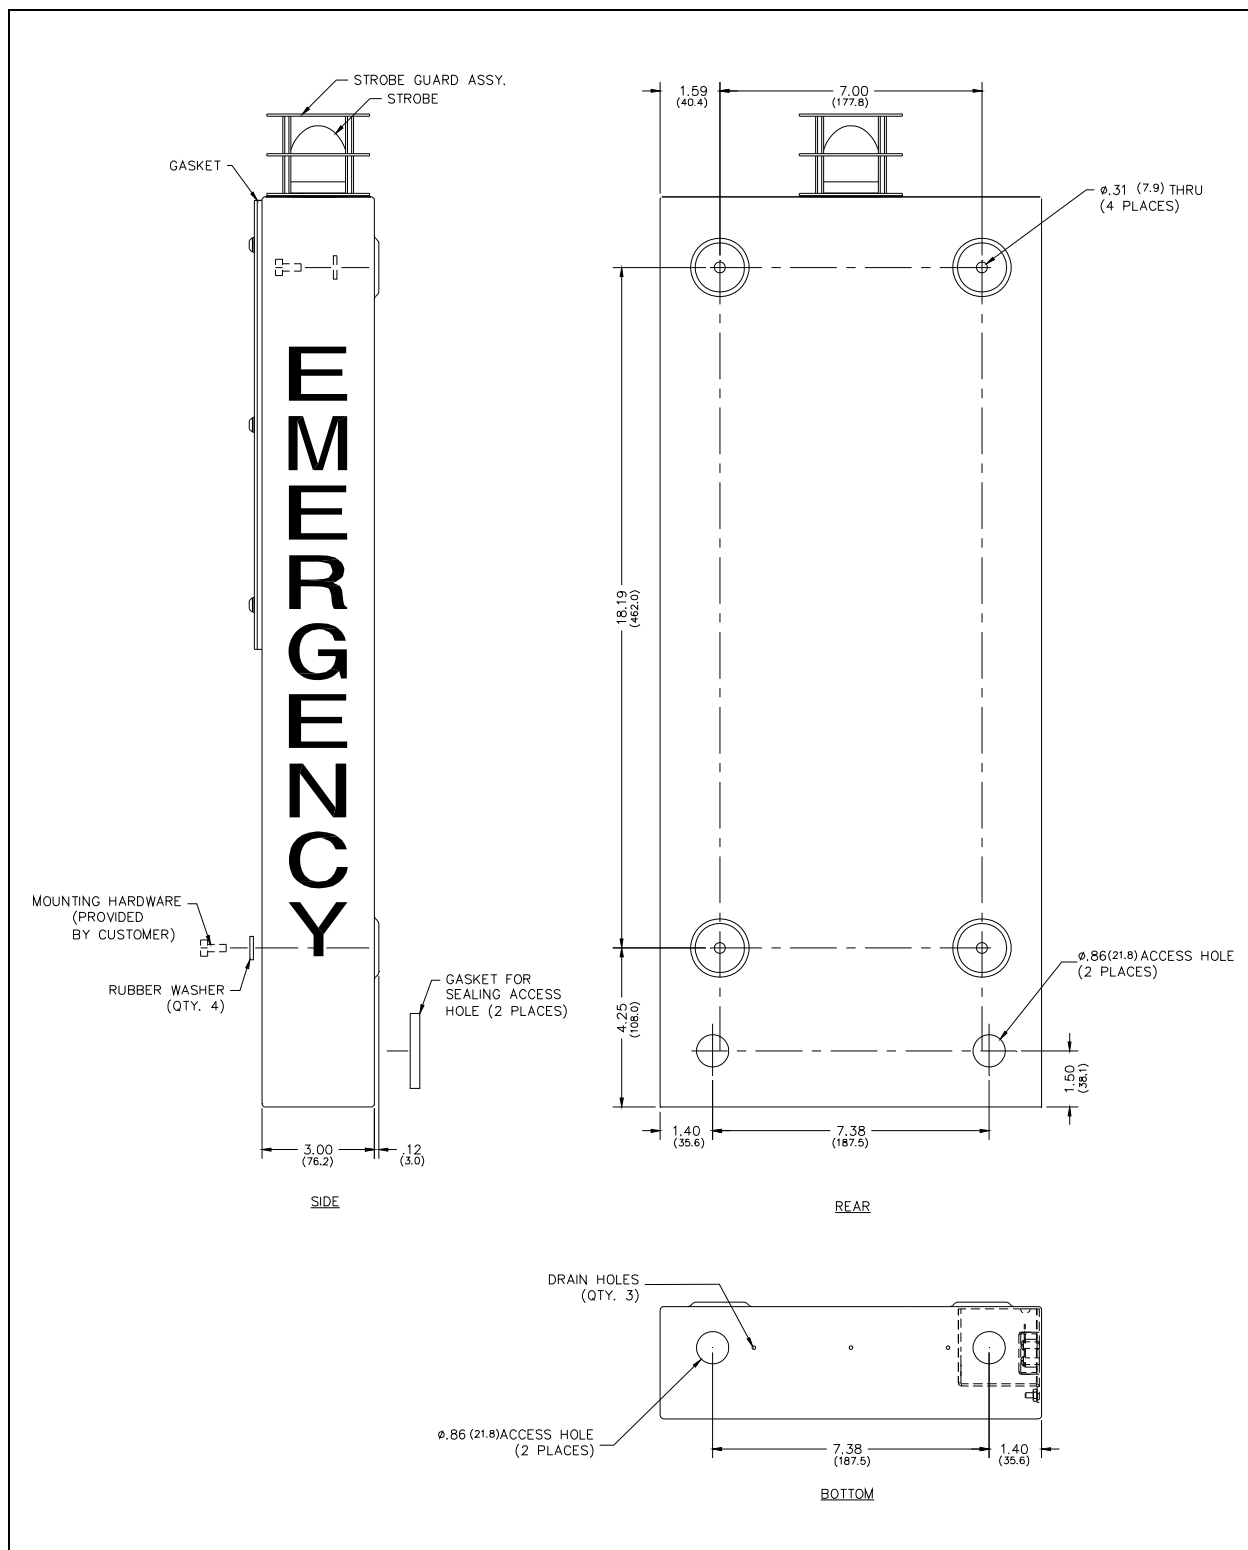

Figure 1. Model 239MW-001/-002 Mounting Details
2. Mount the enclosure on a flat wall surface using the four 5/16-inch (0.312) diameter holes as shown in Figure 1. Four rubber washers are provided to ensure weather-tight sealing.